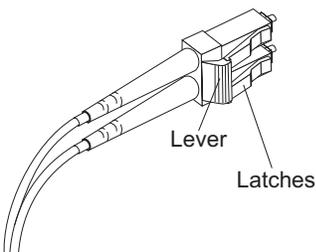

Figure 33. LC-LC Fibre Channel cable lever and latches
- On the end of the LC-LC cable that connects into the SFP module or host bus adapter, press and hold the lever to release the latches, as shown in Figure 33 on page 53.